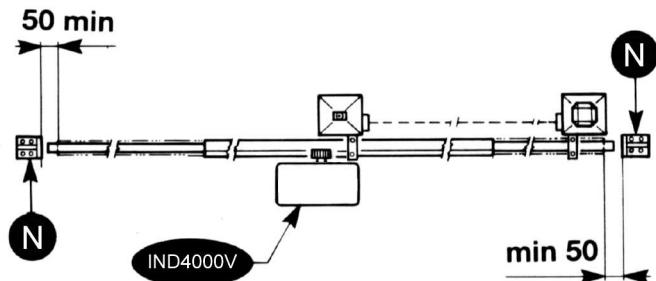
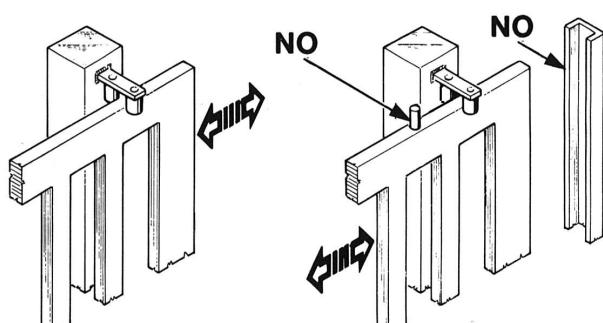

FIG. 2
FIG. 3
- Besides the electrical or mechanical limit switches available on the operators, there must be, on both ends of the installation, a fixed mechanical stopper which stop the gate in the unlikely event of ill functioning of limit switches on the operators. For this reason the fixed mechanical stopper must be of an adequate size to withstand the static and kinetic forces generated by the gate (N) (Fig.2).
The guide must be provided with two mechanical stops at its ends (N) (Fig. 2). Gate columns shall have anti-derailment guides on their top (Fig. 3), to avoid the unintentional gate release.
Note: Eliminate those mechanical stops of the kind described by figure 3.